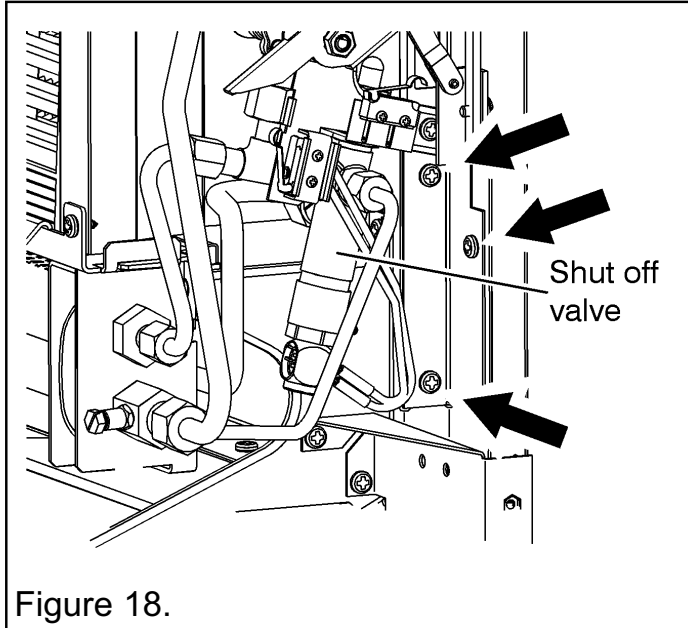

Figure 18.
7. Unscrew and remove the three screws from the rear of the assembly (See figure 18).